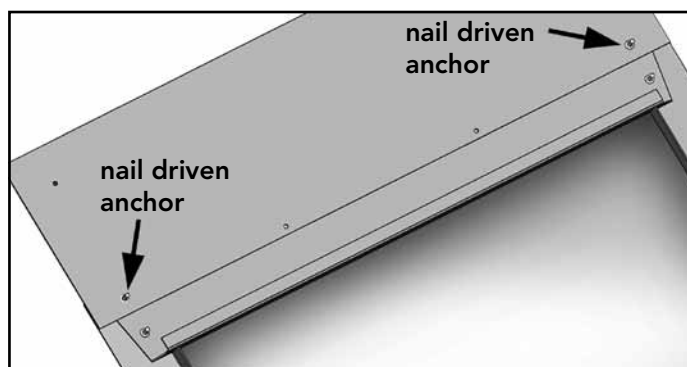

Figure 3
3. Secure the outside lower holes in the extension panel to the foundation using the nail driven anchors as shown in Figure 3.